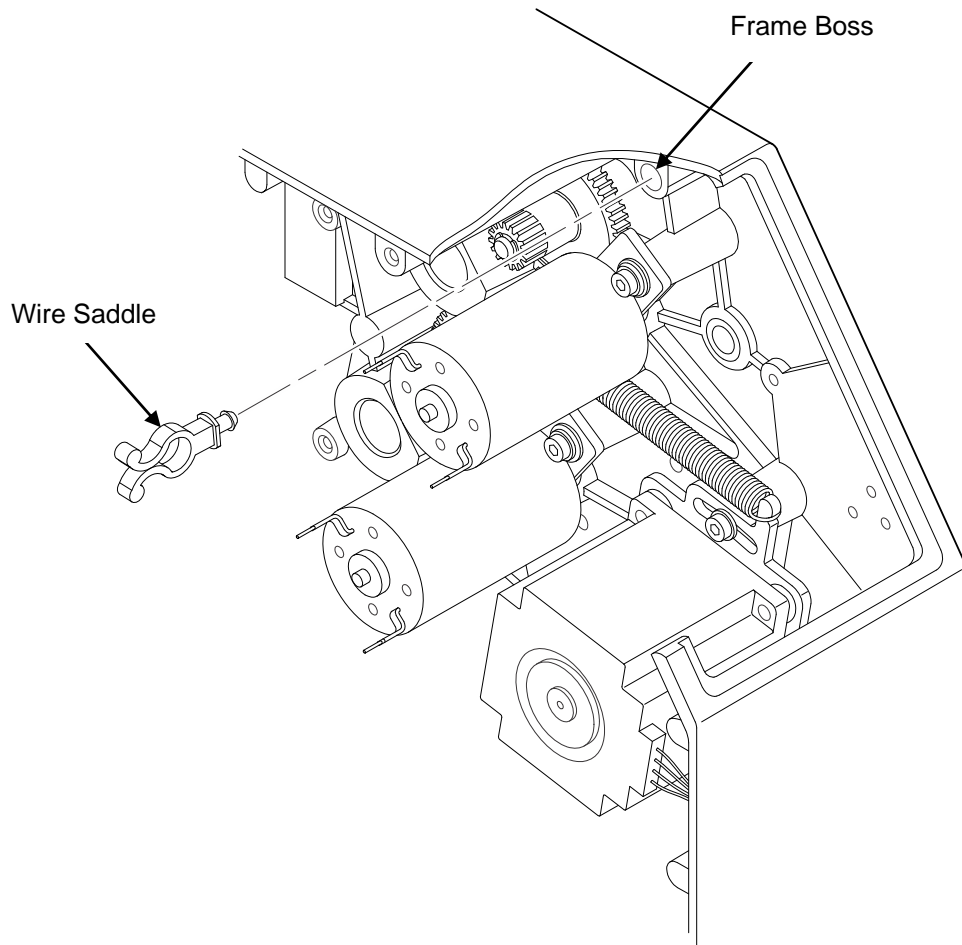

Figure 6 Inserting the Wire Saddle Into the Frame Boss
11. Insert the wire saddle into the frame boss. (Figure 6)